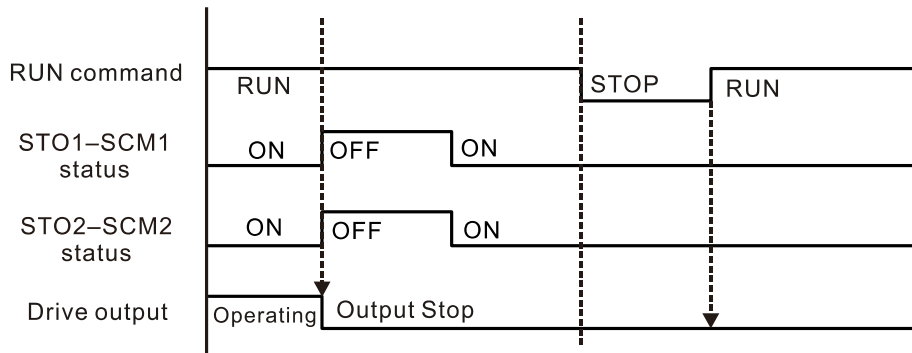

Figure 2
As shown in Figure 2, when both STO1–SCM1 and STO2–SCM2 channels are OFF during operation (safety function is required), the STO function is enabled and the motor drive stops outputting regardless of the command type.
2. Common-mode noise in the power cable is transmitted through the stray capacitance and coupled into the adjacent signal cable, as shown in Figure 2. Several methods can be applied to reduce the effect of this common-mode noise; for example, shield the power cable and/or the signal cables, separate the power and signal cables, take the input and output side of the signal cable and twist them together to balance out the stray capacitance, let power cables and signal cables cross at 90° , etc.